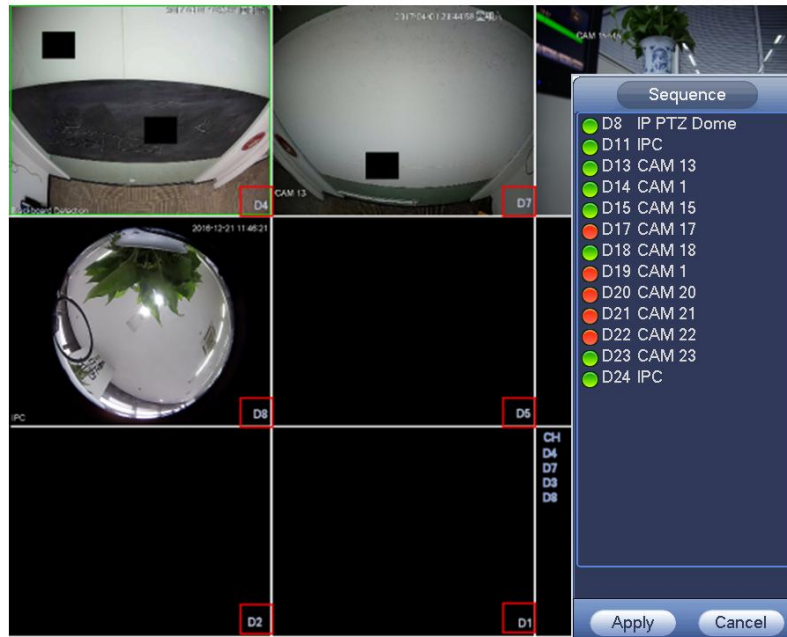

Figure 4-57
- Check the channel number at the right bottom corner to view the current channel sequence. See Figure 4-57.